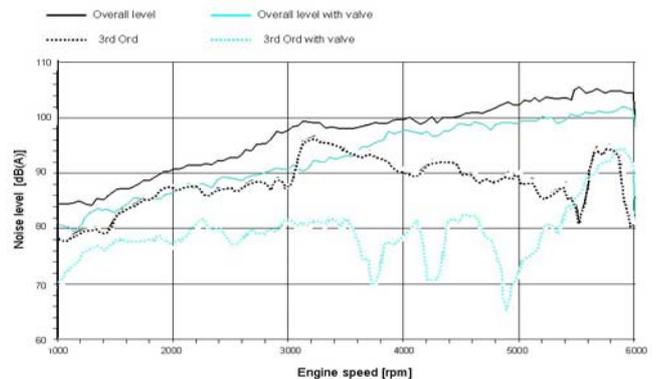

Figure 12: A comparison between mufflers with/without valve to reduce a third order boom-noise
Another example of using a valve is shown in figure 12. Here the valve is used for reducing a boom-noise in third order. The overall level is reduced slightly whereas the third order level is approximately reduced by 15 dB(A) at the resonance frequency